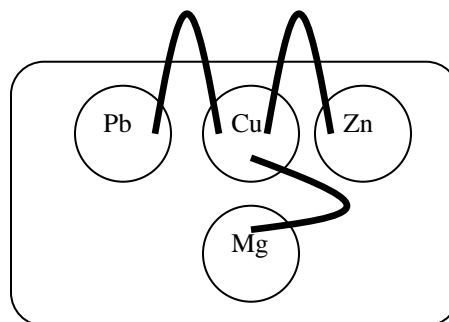

Figure 2
1. Using the well plate, half fill (~2mL) four adjacent wells (see Figure 2) with the 1.0 M solutions of each of the metal compounds. Add a freshly cleaned, shiny (sanded) piece of the metal of the same type (e.g. Cu in the  $\text{Cu}^{2+}$  solution, Pb in the  $\text{Pb}^{2+}$  solution, etc.) that can stand in the well and can accept the clip of the voltage probe. These are the electrodes.